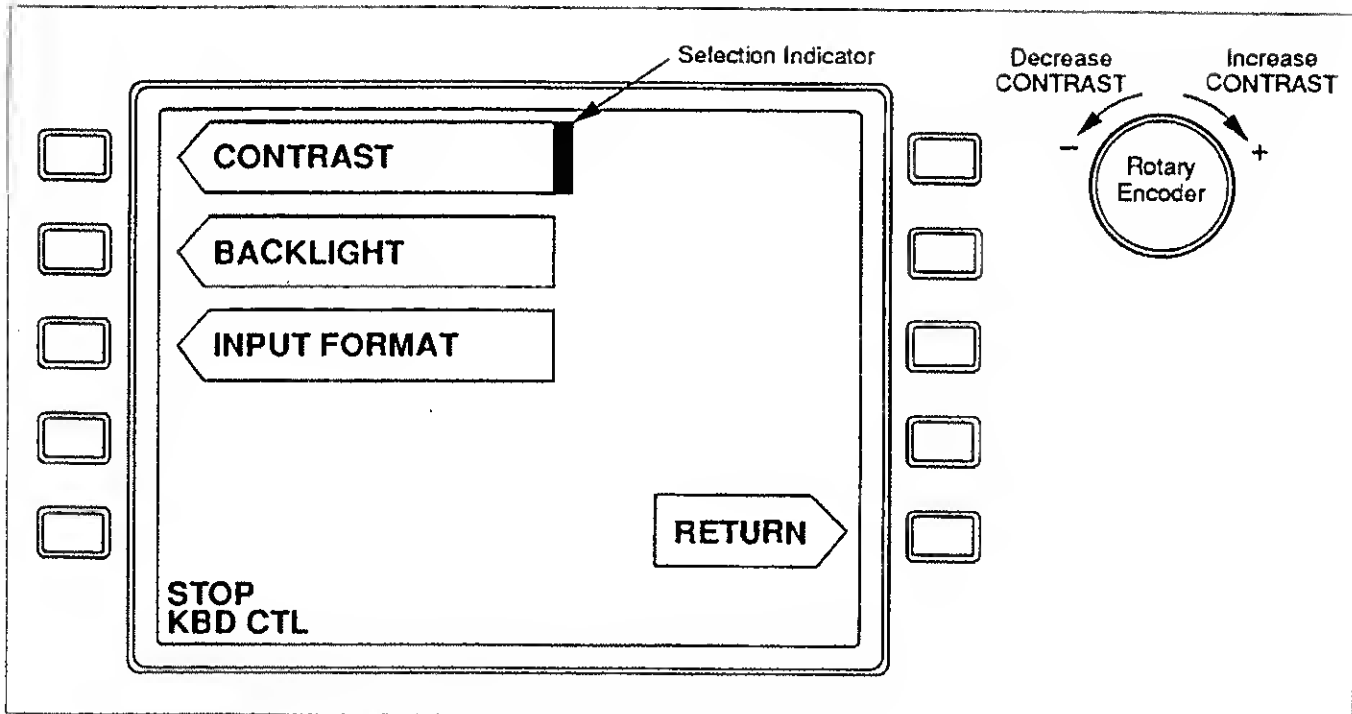

Figure 2-5. DISP Function Screen
- Press DISP and see Figure 2-5.